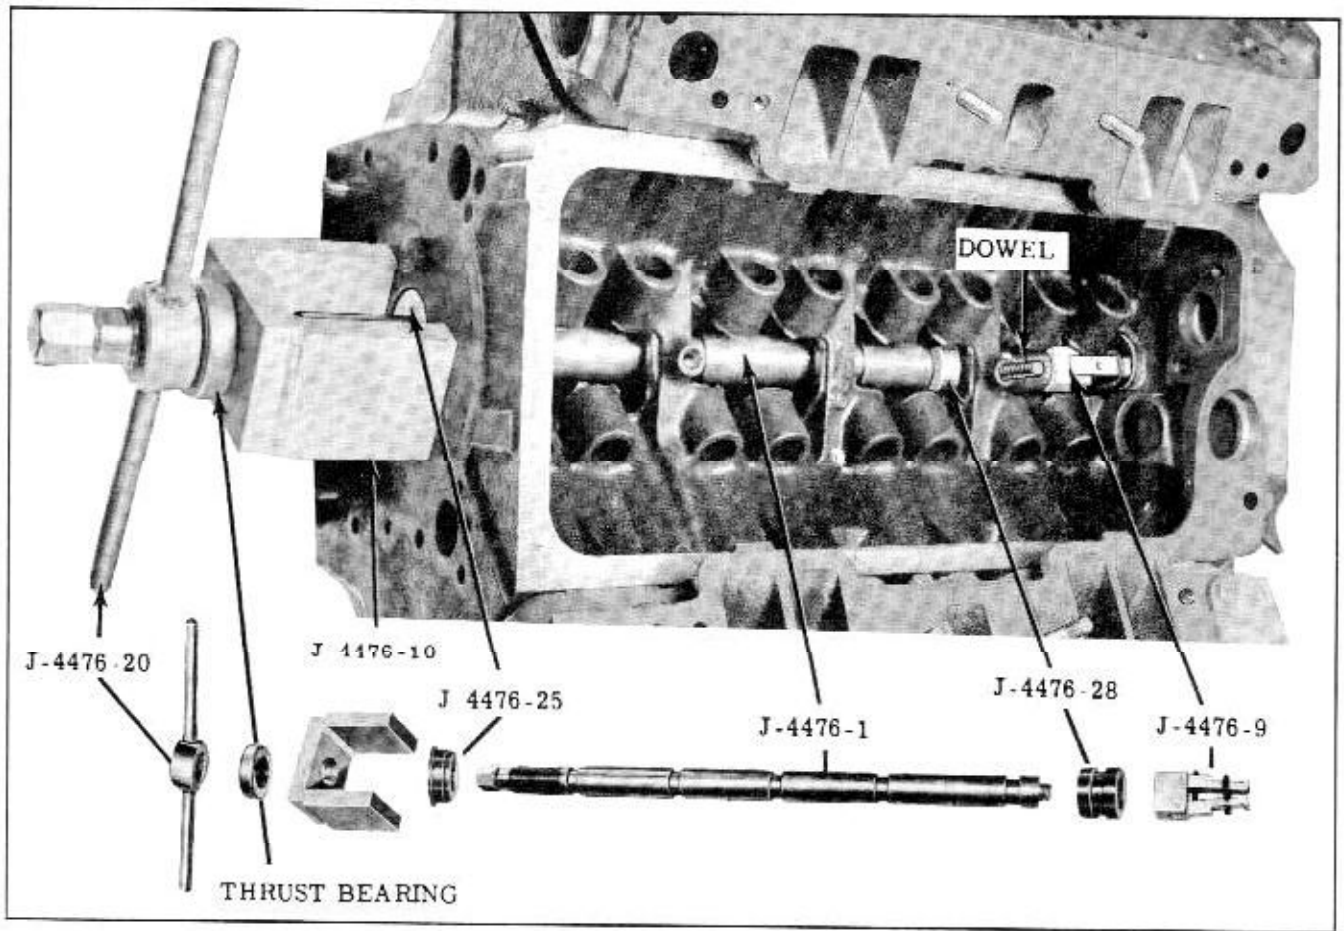

Fig. 8-44 Removing No. 5 Camshaft Bearing
- a. Assemble tools as shown in Fig. 8-44.